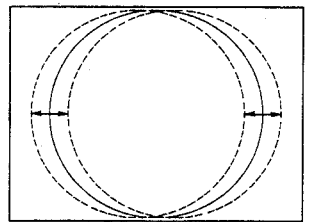

fig. 6
- d) Adjust the horizontal amplitude to obtain 9% overscan (fig. 6).